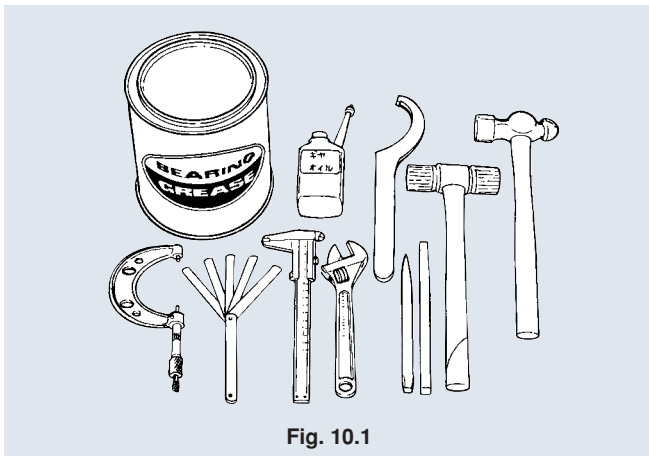

Fig. 10.1
- (1) Prepare installation tools, measuring instruments, oil stone, lubricant and factory cloth. Before the installation work, remove dust and impurities from these tools. (Fig. 10.1)